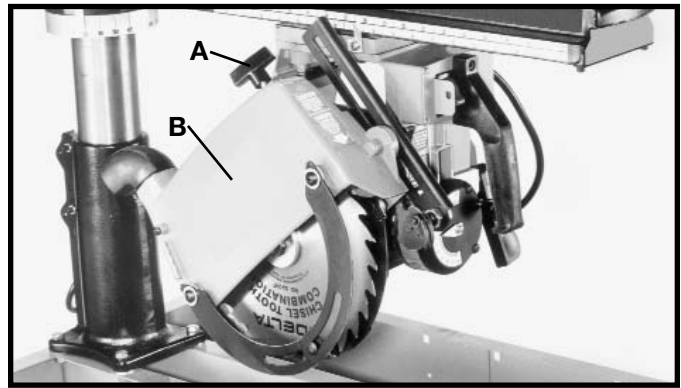

Fig. 11
2. Loosen blade guard clamp knob (A) Fig. 11, and rotate blade guard (B) to the position shown.